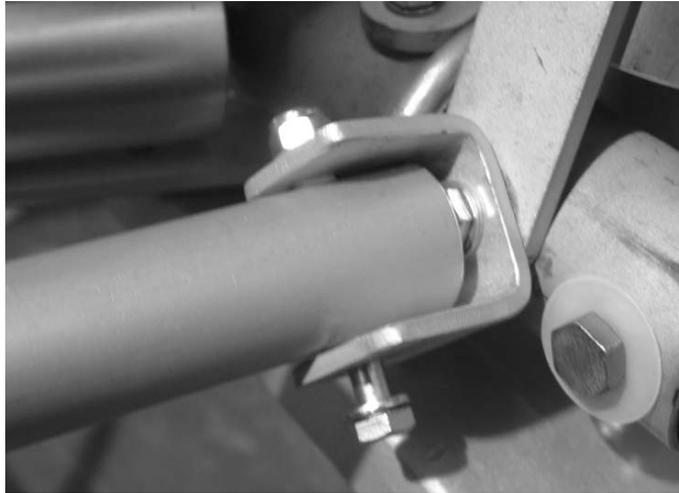

Figure 82; side member attachment bolt, port side looking rearwards.
- a) The lower fuselage side members **tu16** should be positioned with the inner-sleeved part towards the rear. Slip the padded covers over the drag link upper braces, visible in figure 82.